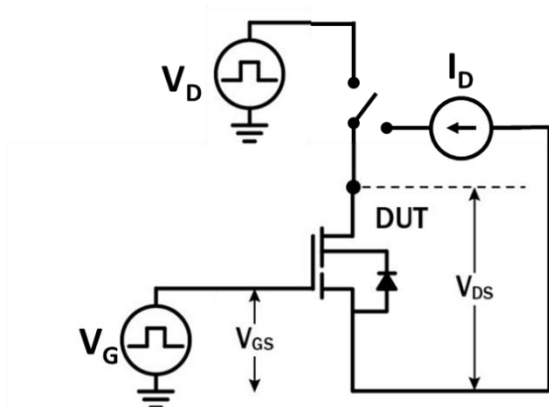

Figure 21. Dynamic $R_{DS(on)eff}$ Test Circuit
1. Dynamic R_{DS(on)}, 100% tested; see Figure 21 and Figure 22 for conditions.